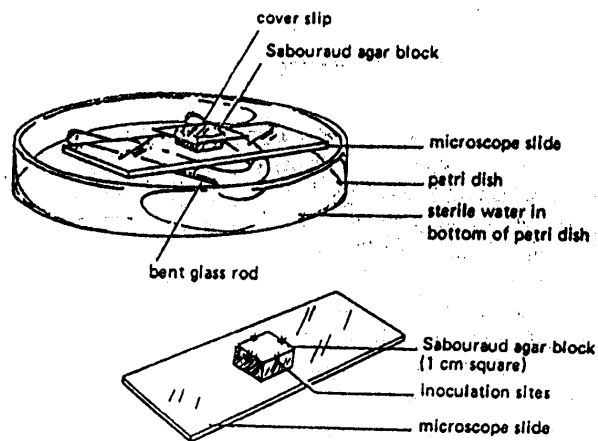

Figure 12-2 : Microculture preparation and inoculating sites.
- 2) Check your sterile microculture plate. Make sure that the slide is balanced horizontally across the bent glass rod as shown in Figure 12-2.
- Refer to Figure 12-2 for inoculating sites.